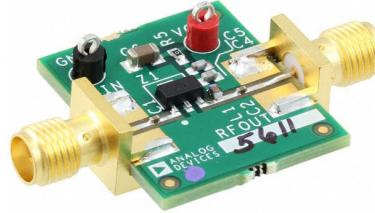

Figure 22: Evaluation board for ADI ADL5611.
1. Follow the recommended schematic and layout in the datasheet: (http://www.analog.com/static/imported-files/data_sheets/ADL5611.pdf). Your final circuit will look similar, but may not be identical to the ADL5611 evaluation board (Fig. 22).